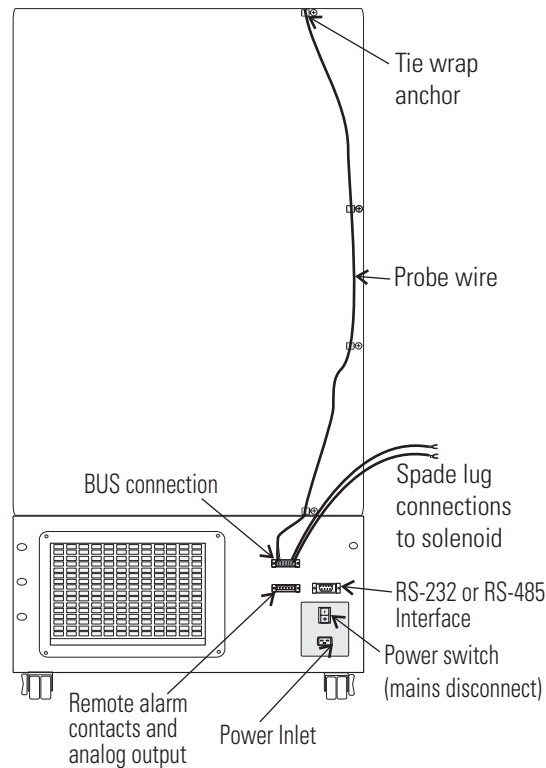

Figure 7-5. Connections
1. Remove the four screws on the freezer back panel and use them to mount the tie wrap anchors as shown in Figure 7-5. Secure the probe wire with tie wraps.
4. Connect power to the freezer. Turn the freezer On, with battery switch Off (O).